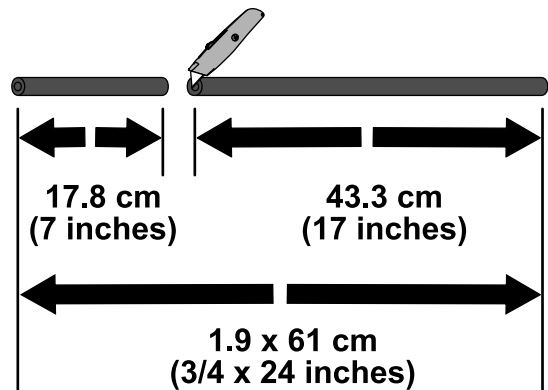

Figure 4
1. Measure 17.8 cm (7 inches) from the end of the hose 1.9 x 61 cm (3/4 x 24) and mark that location (Figure 4).